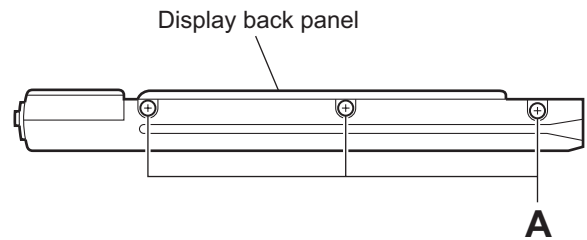

Fig.1
3.3.1 Removing the display back panel (See Figs.1 to 3)
- (1) From the both sides of the display unit, remove the six screws **A** attaching the display back panel. (See Figs.1 and 2.)